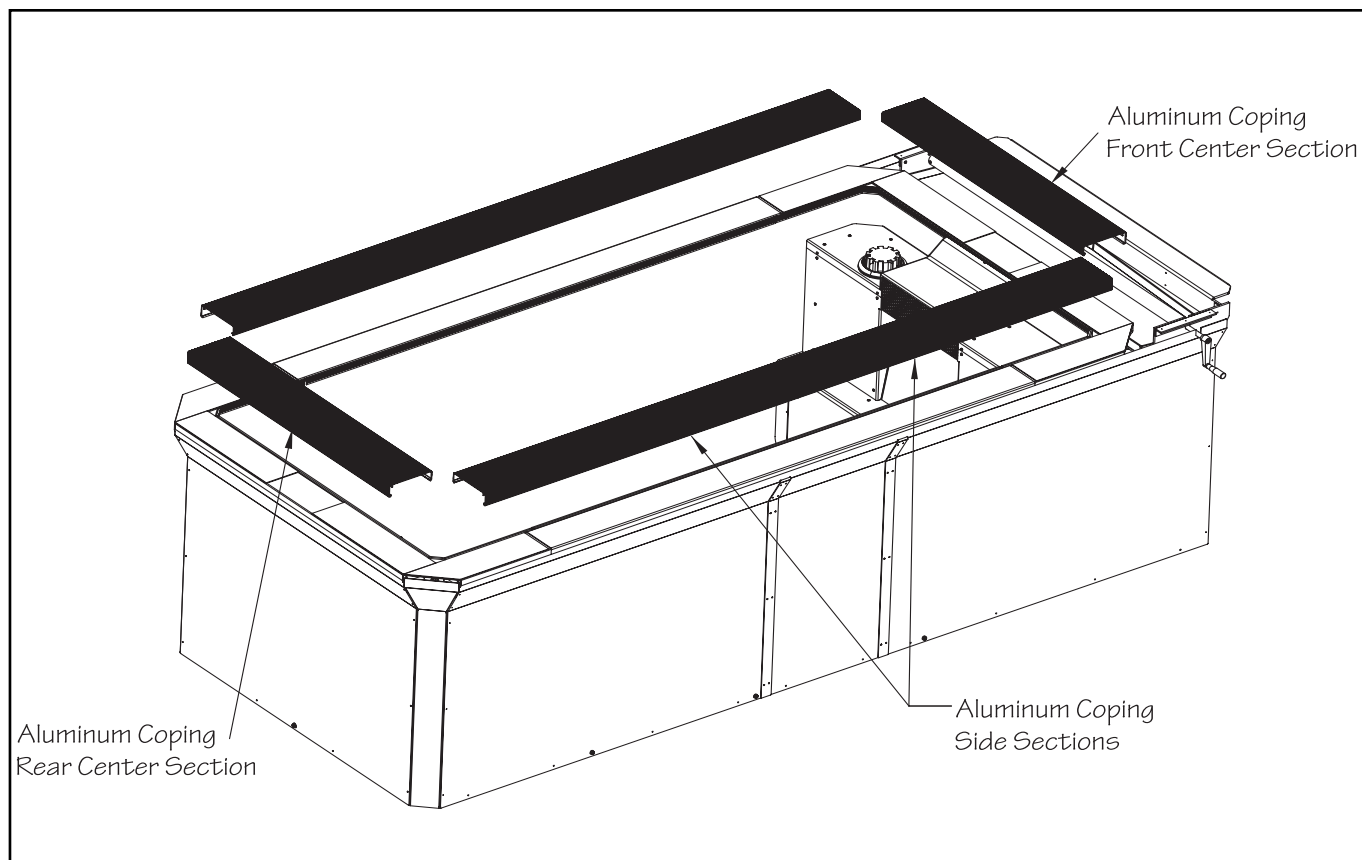

Fig. 70
Measure and mark the center points of each side wall. Apply silicone to the top flange before seating the coping sections. Position the (2) 62 1/4" (1.58m) side sections along each side wall so they meet at the center mark. Once the coping sections have been seated on the top flange, measure to ensure they're centered on the side wall. Fig. 70.